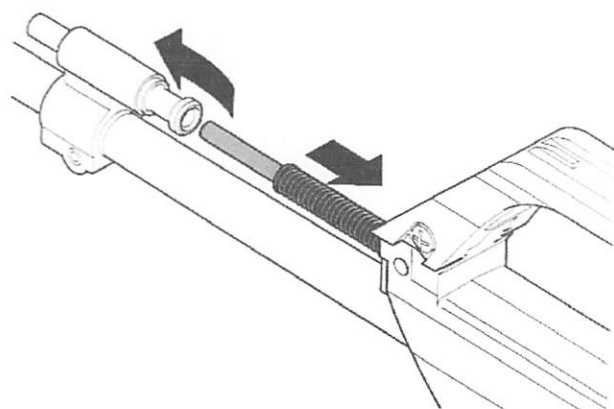

Fig. 24 Disassembly of push rod
- ⇒ Withdraw push rod to the rear, exerting pressure against the spring as far as it will go (Fig. 24).
- ⇒ Attention is to be paid to the correct assembly position of the push rod (Fig. 24).